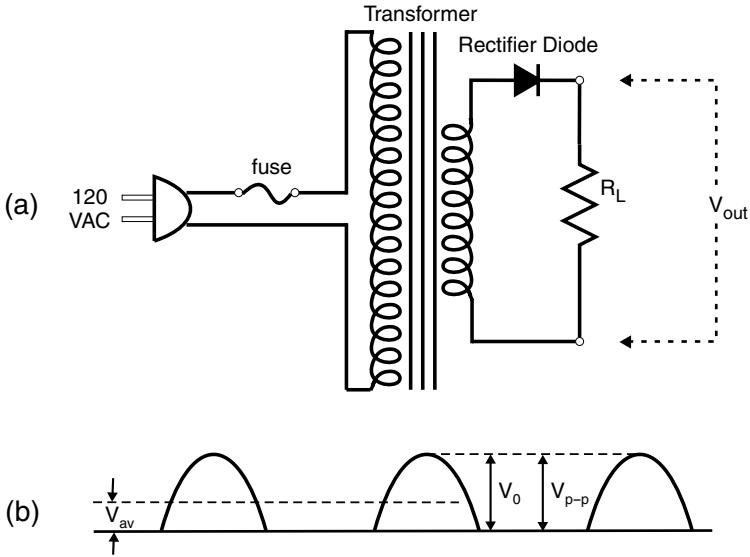

Fig. 3.7. (a) Power transformer with half-wave rectification; (b) waveform produced by circuit shown in (a).
- ▷ Add a 1N4001 diode to give the half-wave rectifier of Fig. 3.7(a) with $R_L = 10$ k.